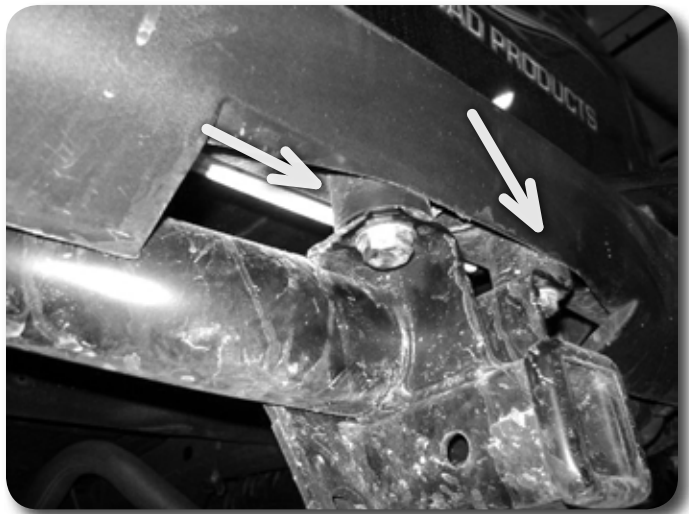

Figure 12
14. If equipped with a receiver hitch, install the provided 1.5" tall x 2" OD bumper spacers between the hitch and the bumper. Figure 12 Fasten the bumper to the hitch with 14mm x 80mm bolts and 9/16" SAE washers. Leave loose.